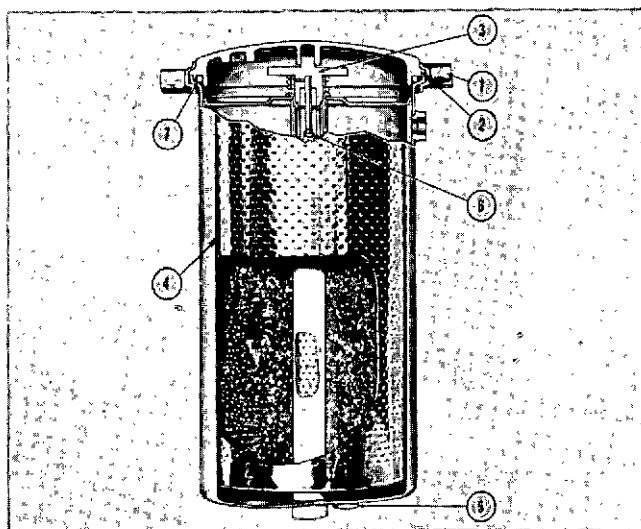

Fig. 7-4-3, V41908. Cross-section by-pass filter
1. Remove clamping ring capscrew (1, Fig. 7-4-3) and lift off cover (2).
2. Unscrew upper support element hold-down assembly (3) and lift out hold-down assembly and element (4).